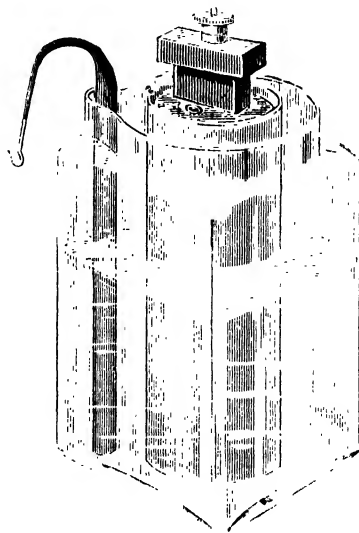

Fig. 282.—Leclanché Cell.
**Leclanché Battery.**—Without doubt, the most popular cell for electric-bell work is the one invented by Georges Leclanché. This cell has an electro-motive force of 1.6 volts. The outer-containing jar is almost always of glass, and square, for convenience of packing to form a battery (see Fig. 282), with a large round mouth furnished with a lip. The cell complete has the top of the mouth, both inside and out, for about an inch down coated with Brunswick black, paraffin wax, or similar material that will prevent the salts formed by the contents from creeping over the edge. This coating is applied by thoroughly cleaning the jar, heating it, and either dipping the rim into melted paraffin wax, or giving it two or three coats of Brunswick black. The porous pot which goes inside the glass jar contains a carbon plate with a lead cap, on which is a binding-screw with connections. The whole of the space between the carbon and the pot, to within  $\frac{1}{2}$  in. of the top, is filled up with a mixture of equal parts by bulk of crushed coke or carbon and peroxide of manganese, crushed to the size of very small peas or rice grains, sifted from the dust and packed in as tightly as possible. So as to allow the gas formed in working to escape, two little pieces of glass tube are embedded in the mixture on each side of the carbon, and then the top should be sealed up with melted pitch, or pitch and resin mixed; the top of one tube is shown in Fig. 282. The whole of the top should have two or three coats of Brunswick black, working well over the lead cap and into the top of the carbon plate, and down the outside of the top of the pot for about 1 in.; dip the bottom of the porous pot for about  $\frac{1}{4}$  in. into melted paraffin wax, and the negative element is ready for use. The positive element is generally a rod of drawn zinc; if cast it is crystalline and brittle. A hole should be drilled in the top, and a stout piece of guttapercha-covered copper wire either screwed or soldered in. The joint should be well covered with guttapercha or several coats of Brunswick black. The zinc should be amalgamated by the following method. With a file remove rough excrescences, etc., and have ready two glass jars deep enough to take the zincs; one of these